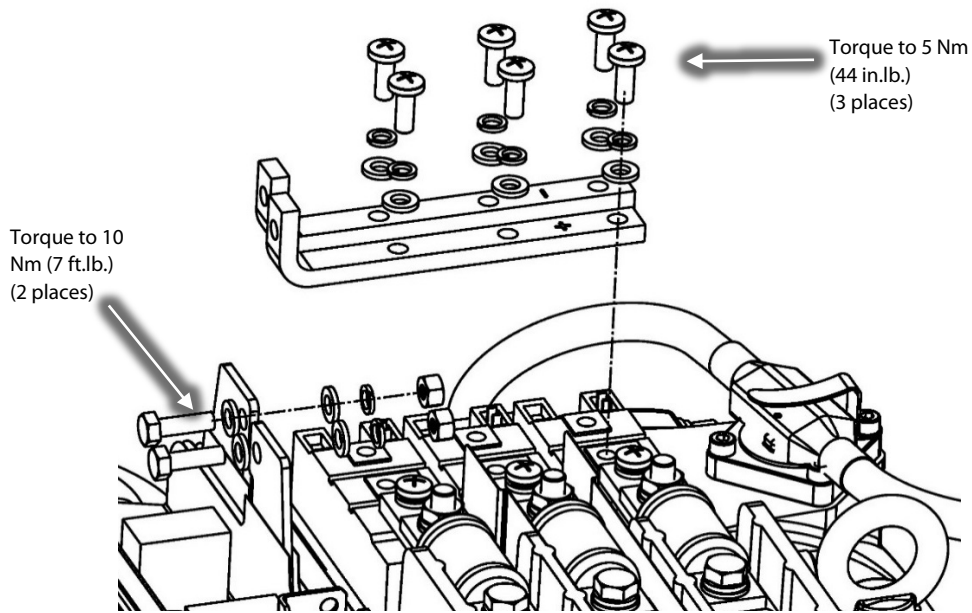

Figure 7 – DC Bus Bar Removal
- Remove the DC Bus Bars from the SCRs. Refer to Figure 7 (DC Bus Bar Removal).
18. Reconnect the DC Bus Bars to the SCRs and torque to specification. Refer to Figure 7 (DC Bus Bar Removal).
19. Reconnect the DC Bus Bars the DC Bus and torque to specification. Refer to Figure 7 (DC Bus Bar Removal).